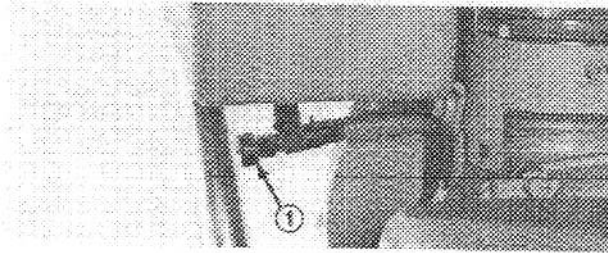

Figure 18
Fuel Shut-Off Valve (Fig. 18) — Valve is located under fuel tank. Close valve to stop fuel flow from fuel tank and open valve to allow fuel to flow to the carburetor. Close valve when snowthrower is not used.
2. Open fuel shut-off valve below fuel tank (Fig. 18).